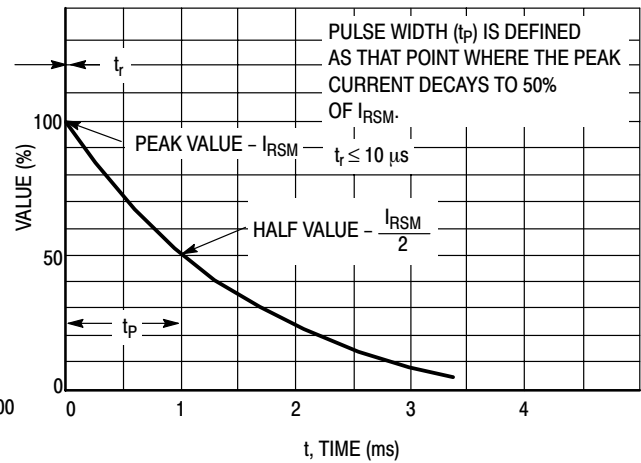
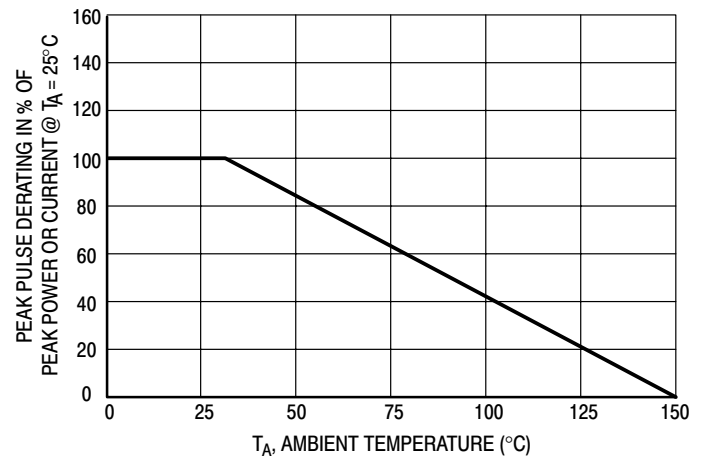

Figure 2. 10 X 1000 μ s Pulse Waveform
Figure 4. Pulse Derating Curve
7. Surge current waveform per Figure 2 and derate per Figure 4.